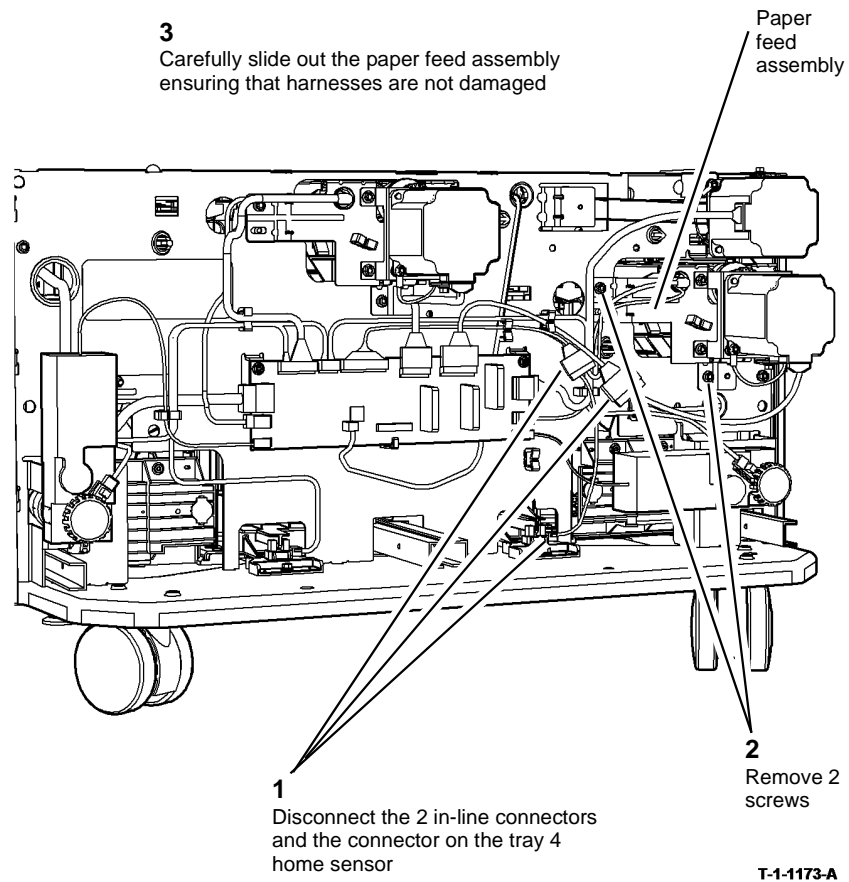

Figure 1 Feed assembly removal
- Remove the paper feed assembly, Figure 1.